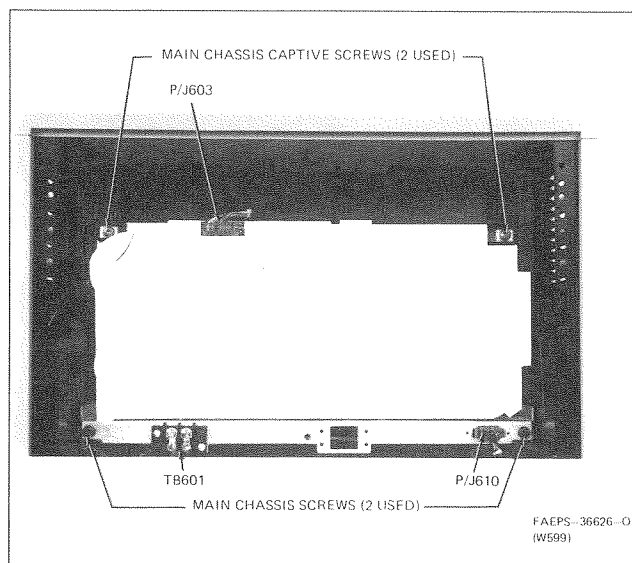

Figure 2. Power Supply Mounting Hardware and External Connections
Step 2. Refer to Figure 2. Remove MAIN CHASSIS SCREWS and loosen MAIN CHASSIS CAPTIVE SCREWS.